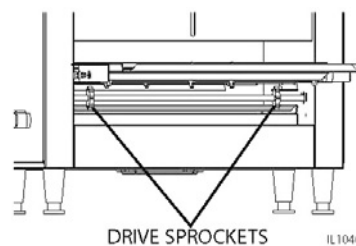

Fig 2. Conveyor Drive Sprockets
4. Now that the links have been unhooked, the conveyor can now be carefully removed from the oven. Standing at one end of the oven. Starting with the end on the bottom, roll the conveyor belt until it has been totally removed. Take careful notice being sure not to damage the heater tubes, and working it over the drive sprockets, ( see Figure 2.).
Reinstall conveyor belt by first laying the belt along the bottom of the oven cavity making sure the hooks on the sides are facing the inside and ends of the hooks will be pointing away from the direction of the belt so not to catch on any internal components once put back into operating. Also, being sure to properly align the belt over the conveyor drive sprockets shown in Fig 2.